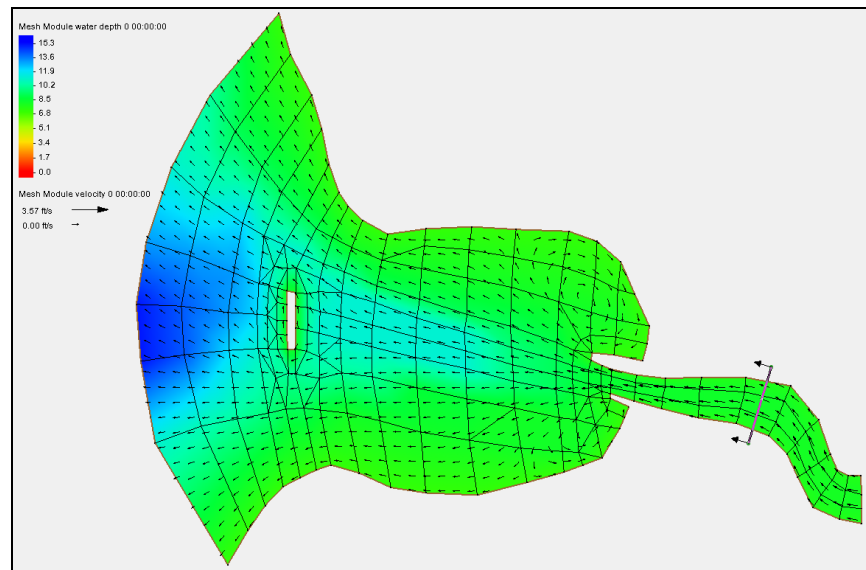

Figure 22 Observation arc across the noyo1 mesh
10. Using the **Create Feature Arc**  tool, create an observation arc across the mesh (Figure 22). Draw the arc from the bottom end of the screen towards the top.